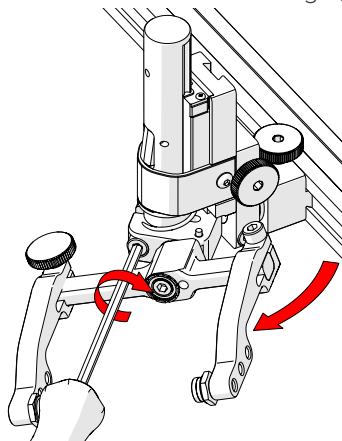

Fig. 73 - Rotate and tighten
3. Tighten the transverse adjustment screw (Fig. 73).